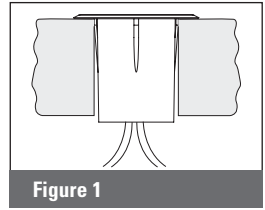

Figure 1
- d. Disconnect the lights from each other and insert each fixture into its corresponding hole by feeding the two (2) wires first then pressing the fixture firmly into the hole so that it fits tightly against the surface. Repeat this for all lights. (Figure 1)